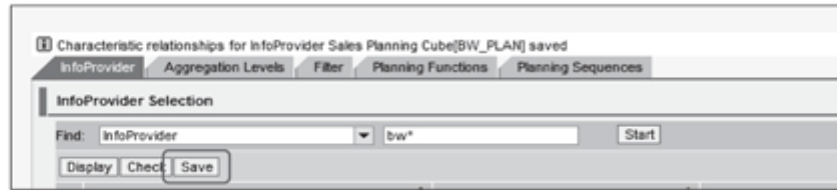

Figure 12.19 Save Characteristic Relationship
1. Save this definition of the characteristic relationship by clicking the **SAVE** button on the **INFOPROVIDER** tab (Figure 12.19).